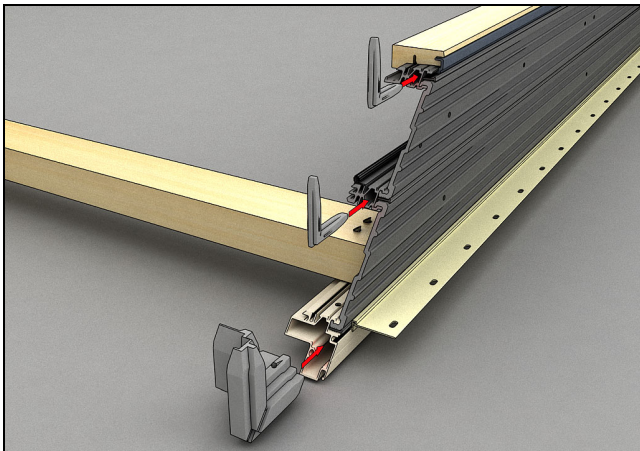

Figure 11
13. Insert the head jamb frame connector keys into the frame connectors on the mitered ends. Insert the frame cladding corner key into cladding. Fasten using #8 x 3/8" pan head screw into the corner key. See Figure 11.